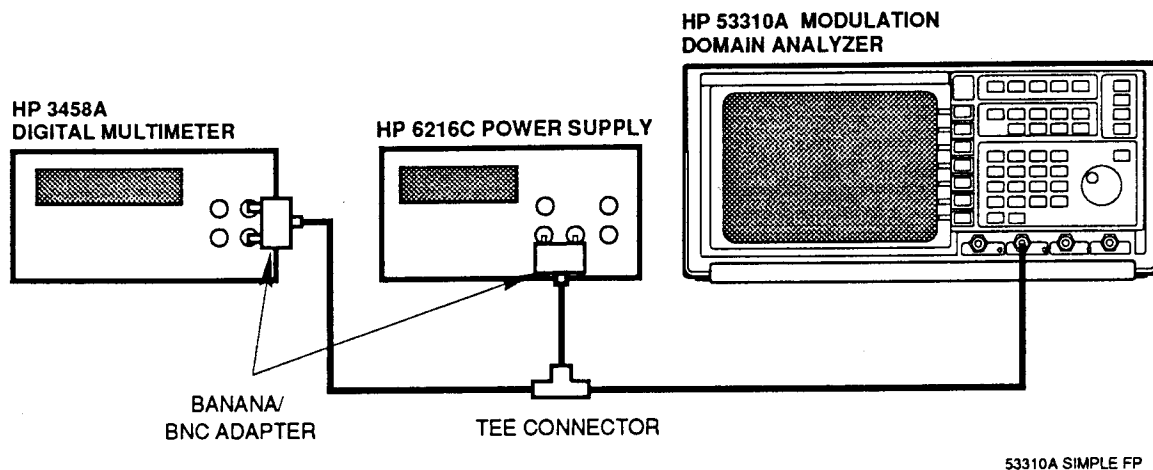

Figure 3-4. Gain Calibration Setup
- a. Connect a +5V dc source to Channel A and the voltmeter (or digital multimeter) as shown in *Figure 3-4*.